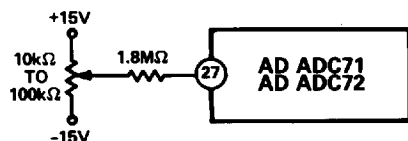

Figure 6. Offset Adjustment Circuit
The zero adjust circuit consists of a 100ppm/°C potentiometer connected across  $\pm V_S$  with its slider connected through a 1.8M $\Omega$  resistor to Comparator Input pin 27 for all ranges. As shown in Figure 6, the tolerance of this fixed resistor is not critical, and a carbon composition type is generally adequate. Using a carbon composition resistor having a  $-1200\text{ppm}/^\circ\text{C}$  tempco contributes a worst-case offset tempco of  $32\text{LSB}_{14} \times 61\text{ppm}/\text{LSB}_{14} \times 1200\text{ppm}/^\circ\text{C} = 2.3\text{ppm}/^\circ\text{C}$  of FSR, if the OFFSET ADJ potentiometer is set at either end of its adjustment range. Since the maximum offset adjustment required is typically no more than  $\pm 16\text{LSB}_{14}$ , use of a carbon composition offset summing resistor typically contributes no more than 1ppm/°C of FSR offset tempco.
**Short Cycle Input:** A Short Cycle Input, pin 32, permits the timing cycle shown in Figure 8 to be terminated after any number of desired bits has been converted, permitting somewhat shorter conversion times in applications not requiring full 16-bit resolution. When 10-bit resolution is desired, pin 32 is connected to Bit 11 output pin 11. The conversion cycle then terminates and the STATUS flag resets after the Bit 10 decision ( $t_{10} + 40\text{ns}$  in timing diagram of Figure 6). Short cycle connections and associated maximum 8-, 10-, 12-, 13-, 14-, and 15-bit conversion times are summarized in Table I.